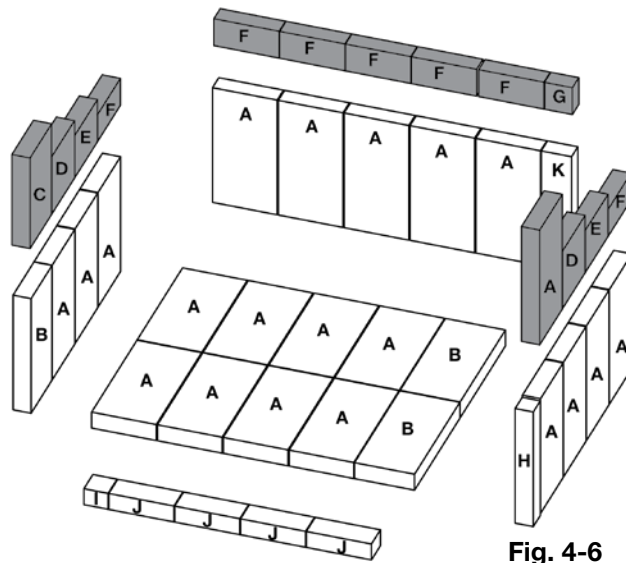

Fig. 4-6
- C. Install five “F” bricks and one “G” brick along the rear of the firebox, then install one “C” brick, one “D” brick, one “E” brick, and one “F” brick along the left side of the firebox, and finally install one “A” brick, one “D” brick, one “E” brick, and one “F” brick along the right side of the firebox (**Fig. 4-6**).